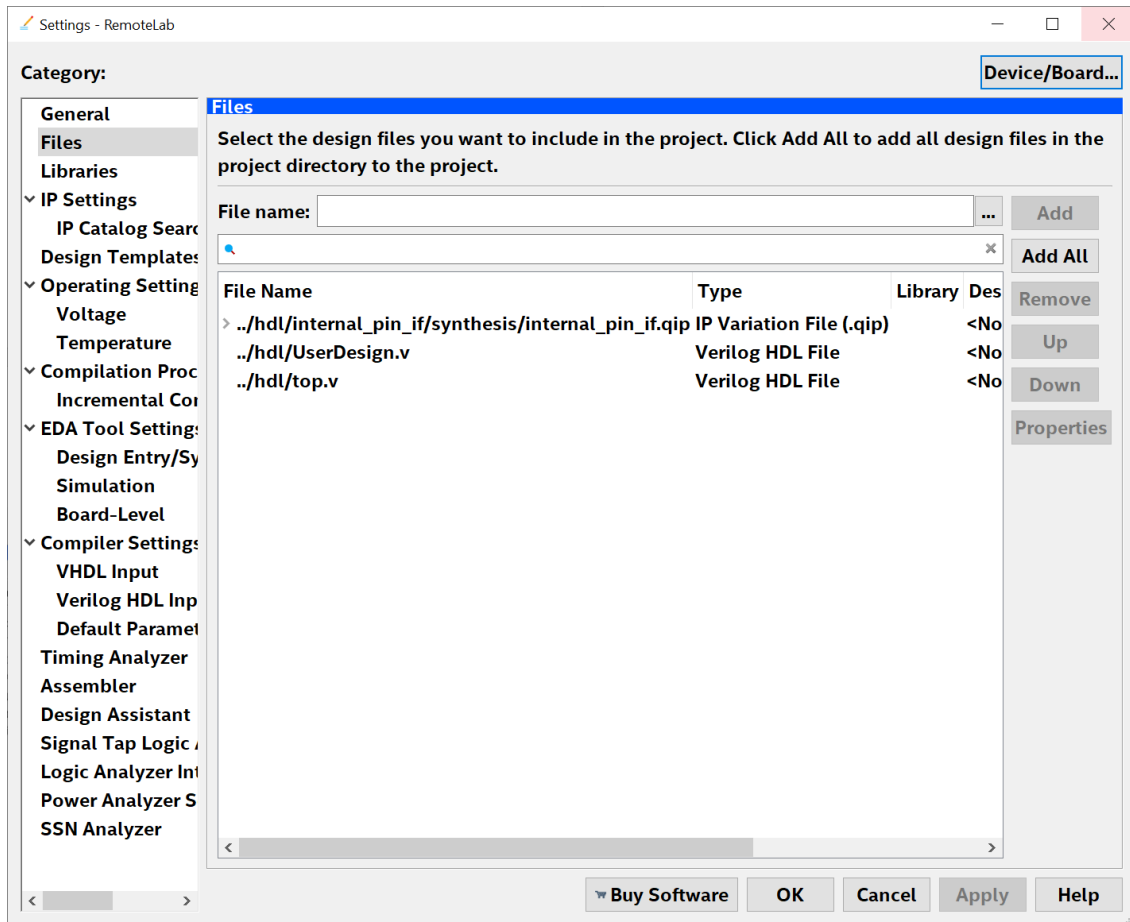

Figure 7: Files included in your project
- ☐ A window, shown in Figure 7, should pop up. Click on **Verilog HDL File** and then **OK**.